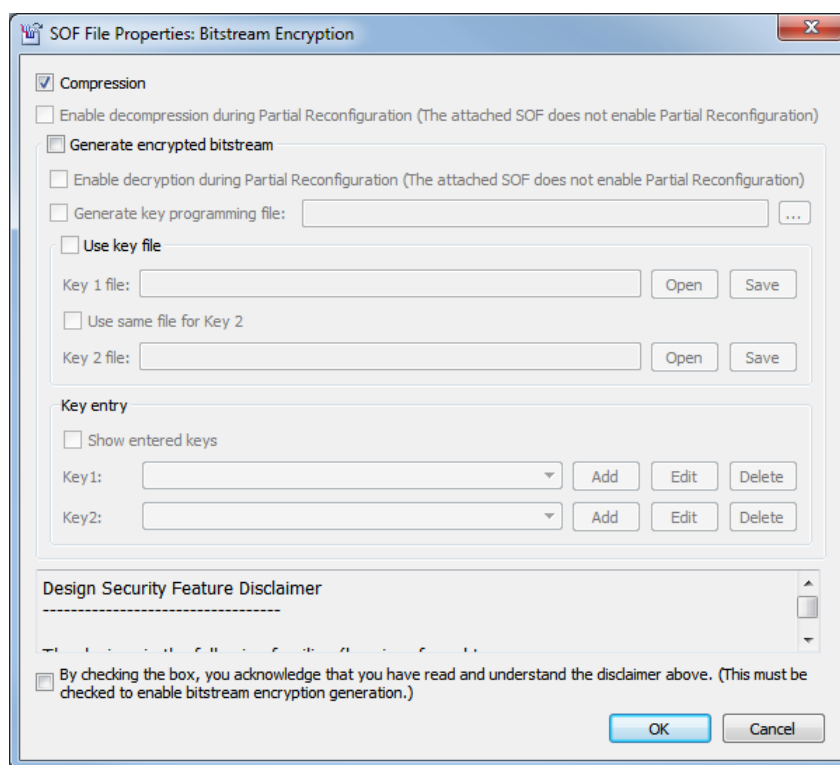

Figure 34. Enabling file compression.
6. Click and highlight the newly added .sof file in the list, then select `Properties`. You should see the window shown in Figure 34. Enable file compression by ticking the checkbox as shown, then press OK.